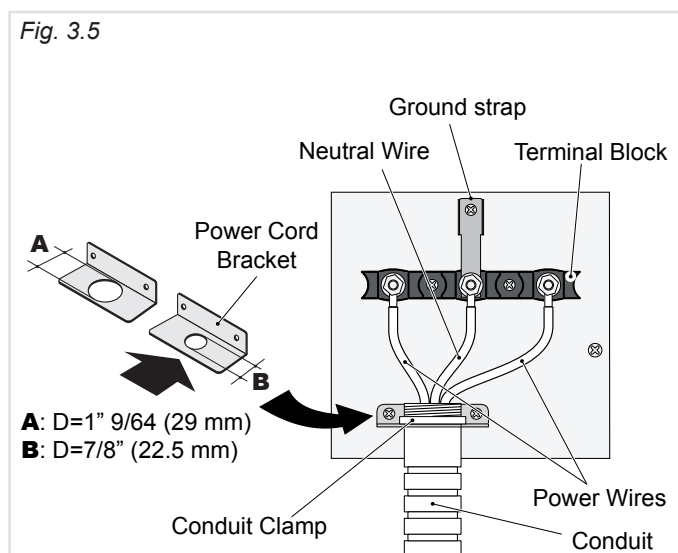

Fig. 3.5
### 3-Wire Conduit Installation (See Figure 3.5)
2. Check the correct positioning of the **Conduit Bracket** as per figure 3.5.